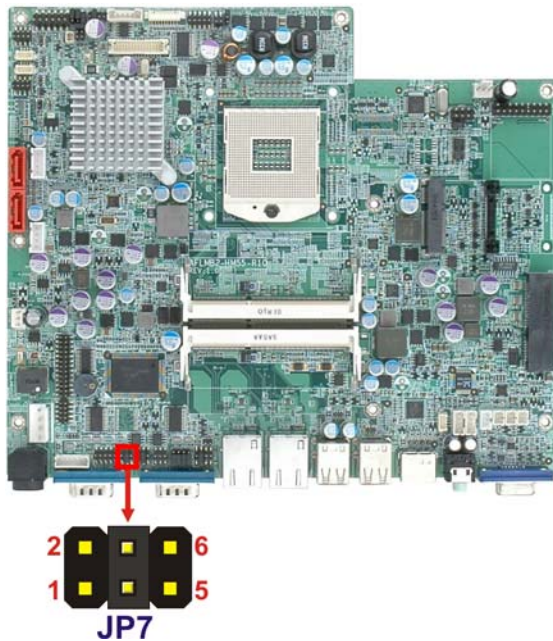
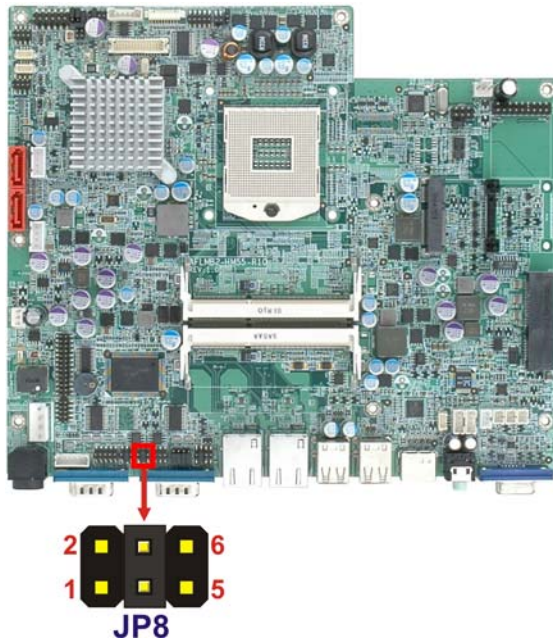

Figure 3-7: JP7 Jumper Setting Location
Figure 3-8: JP8 Jumper Setting Location
- Jumper Location:** See **Figure 3-7** and **Figure 3-8**